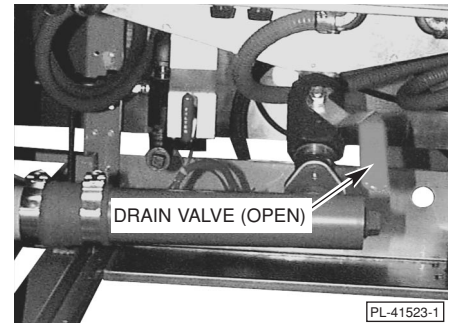

Fig. 5
- To drain fry tank, position Drain Valve in OPEN position (Fig. 5).
- Open Drain Valve (Fig. 5) and allow cooking oil to drain into Filter Tank.